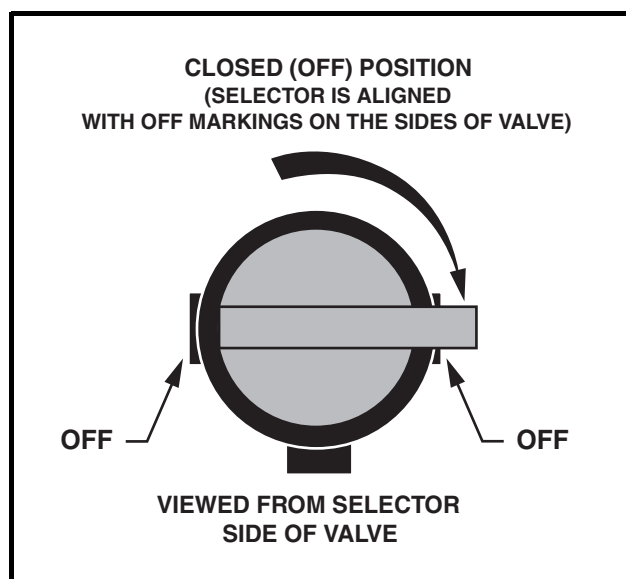

Figure 12 Fuel Shut-off Valve – Closed Position
- Gasoline vehicles only: Turn fuel shut-off valve to the closed (OFF) position (Figure 12, Page 26).
- Gasoline vehicles only: Turn fuel shut-off valve to the closed (OFF) position (Figure 12).